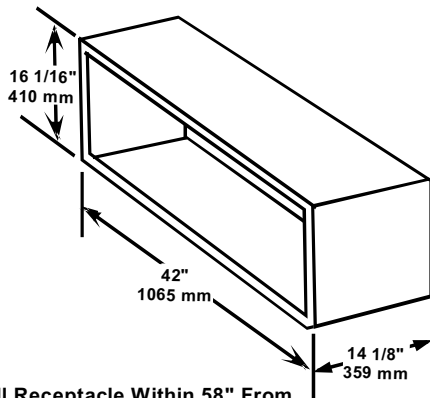

Figure 1 - Wall Sleeve Dimensions
- The wall opening must be the correct size. See Figure 1 for wall sleeve dimensions and Figure 2 for minimum wall opening size.
- If used, a 208/230-volt wall receptacle must be located within 58 inches of the lower right sleeve corner. Extension cords must not be used with the unit. See the note on Figure 1.